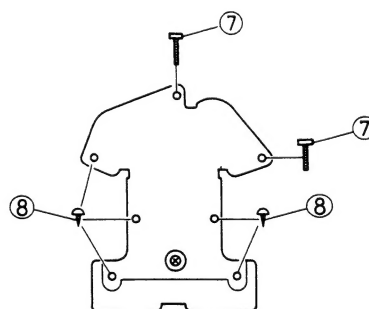

Fig. 10
6. Cam and reel motor (Figs. 10 and 11)